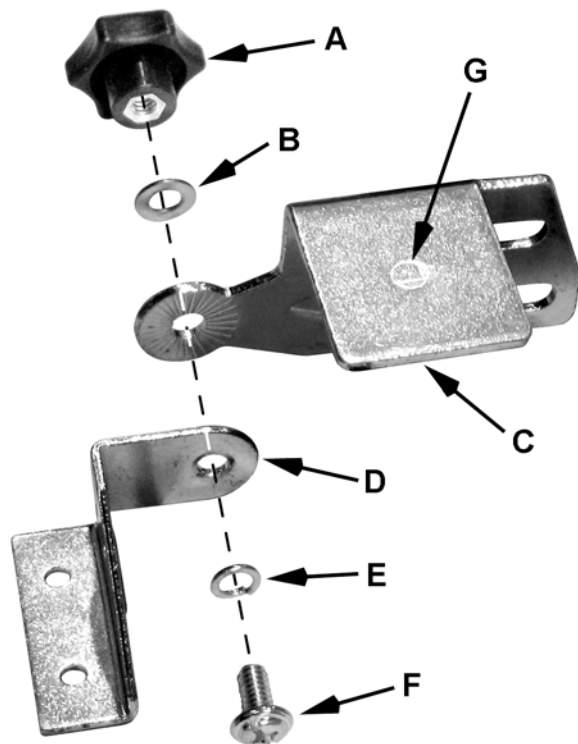

Figure 1
- 2 Brackets (D) (see Note)
- 2 Lock Knobs (A)
- 2 Spark Guards (C) (see Note)
- 2 1/4" x 1/2" Screws (F)
- 2 1/4" Flat Washers (B)
- 2 1/4" Lock Washers (E)
Note: Brackets (D) and spark guards (C) are marked **L** (G, Fig. 1) for left side assembly and **R** for right side assembly.
1. Assemble the left *spark guard and eye shield mounting bracket* using Figure 1 as a guide. Make sure the spark guard and bracket is marked **L**.
Note: There is a *left* and a *right* tool rest. Refer to Figure 1 to ensure that you install them correctly.